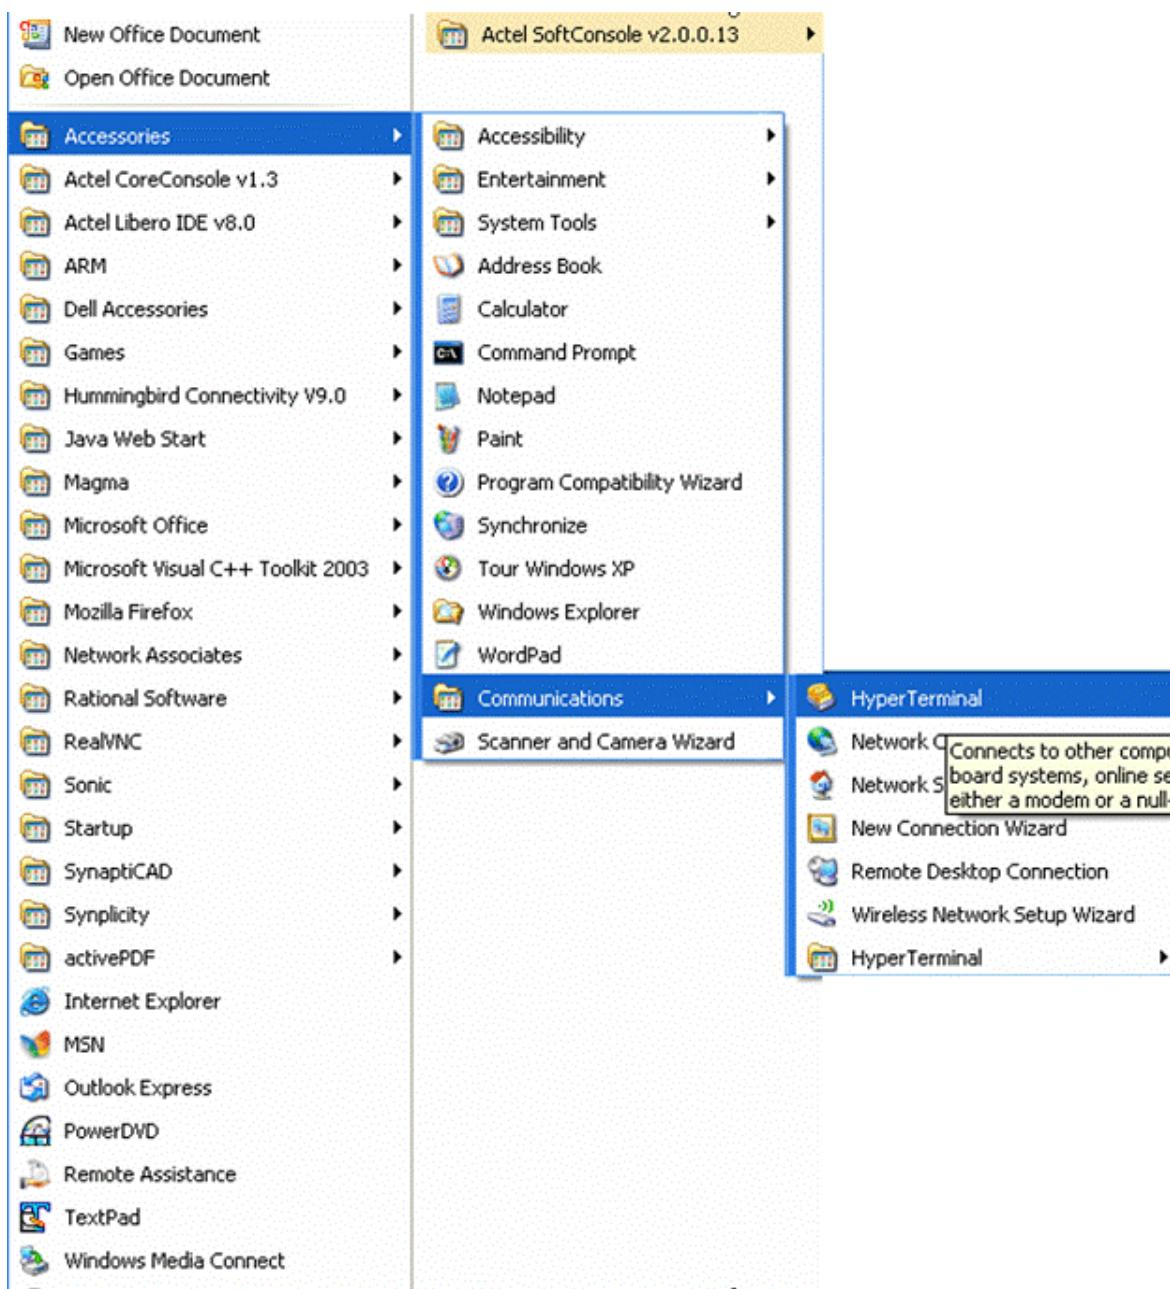

Figure 7-5 • HyperTerminal Program Setup
1. Open the Windows start menu. Select All > Programs > Accessories > Communications and select the HyperTerminal program (Figure 7-5). This opens HyperTerminal.